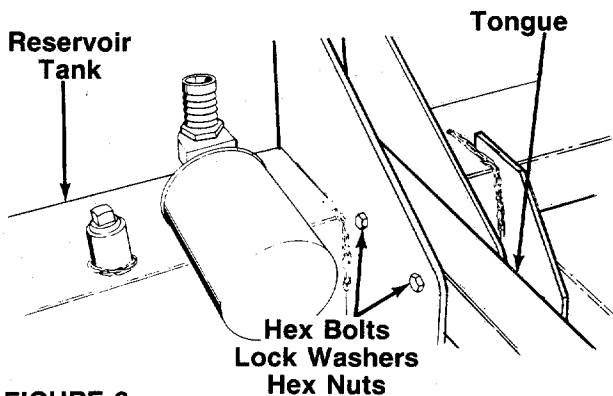

FIGURE 3.
2. Remove the two hex bolts, lock washers and hex nuts on the front of the reservoir tank. Two 9/16" wrenches are required. Place the tongue in position, and secure with hardware just removed. See figure 3.